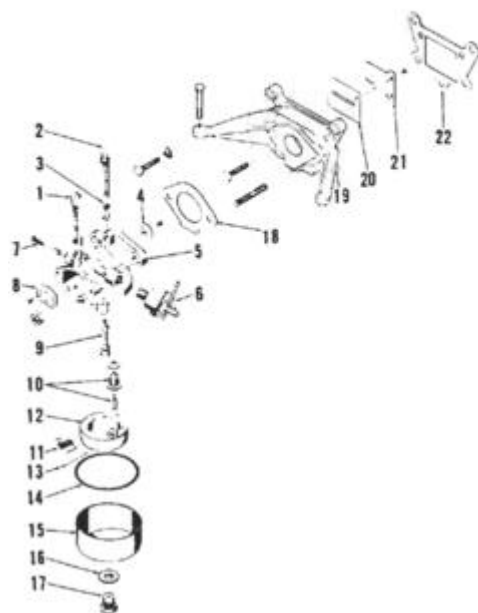

Fig. SK6-1 - Exploded view of carburetor.
CARBURETOR. Refer to Fig. SK6-1 for an exploded view of carburetor. Initial setting of idle mixture screw (7) is one turn open. High speed mixture is controlled by high speed jet (17). Adjust idle speed so engine idles at 800-1200 rpm.